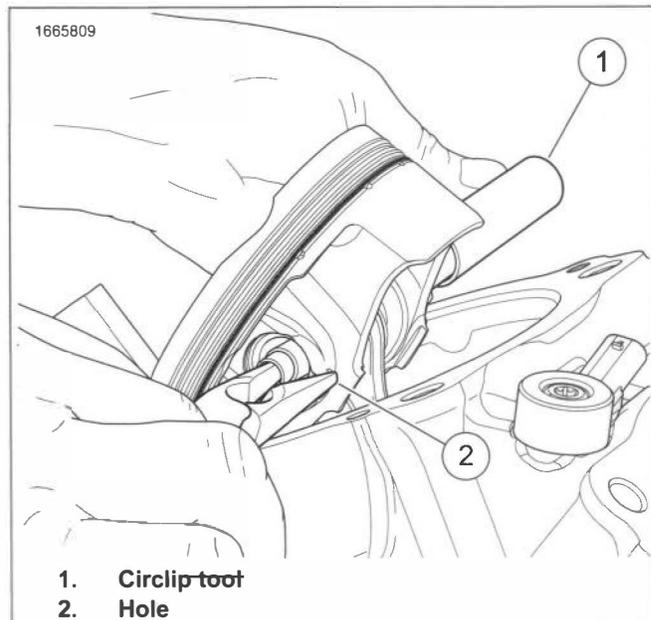
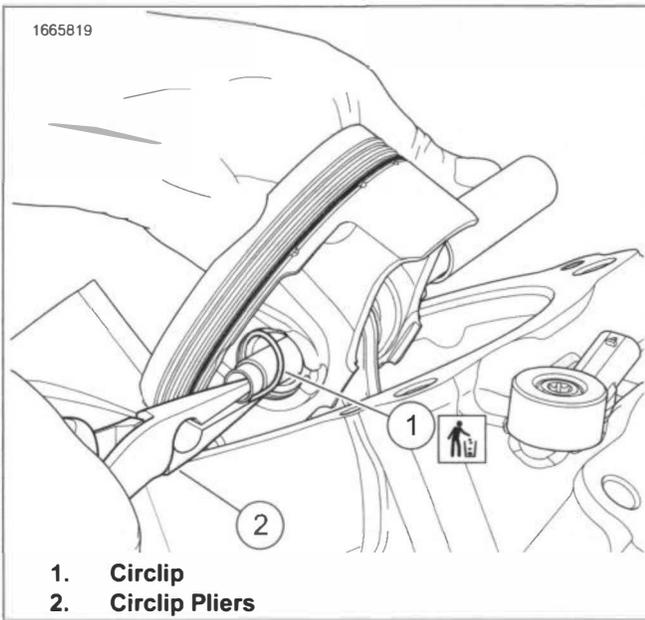
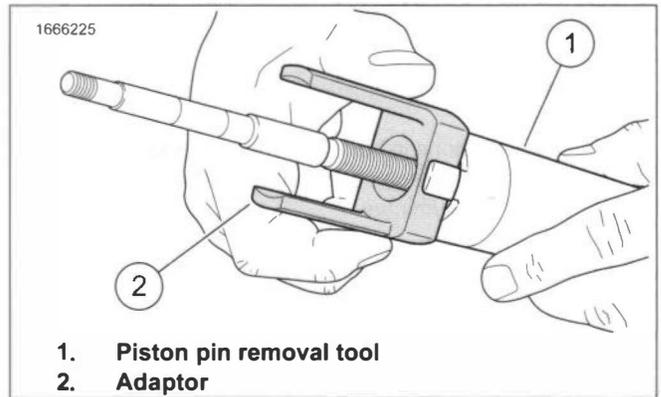

Figure 4-52. Circlip Pliers
Figure 4-53. Circlip Removed
Figure 4-57. Piston Pin Removal Tool
- a. See Figure 4-52. Install circlip tool (1) into piston pin.
- b. Place circlip tang in hole (2) in pliers as shown.
- c. See Figure 4-53. Push on circlip tool while wiggling and pulling pliers (2).
- d. Remove circlip (1) from pliers and discard.
- a. See Figure 4-57. Align adaptor (2) with piston pin removal tool (1).
- b. See Figure 4-57. Align adaptor (2) with piston pin removal tool (1).